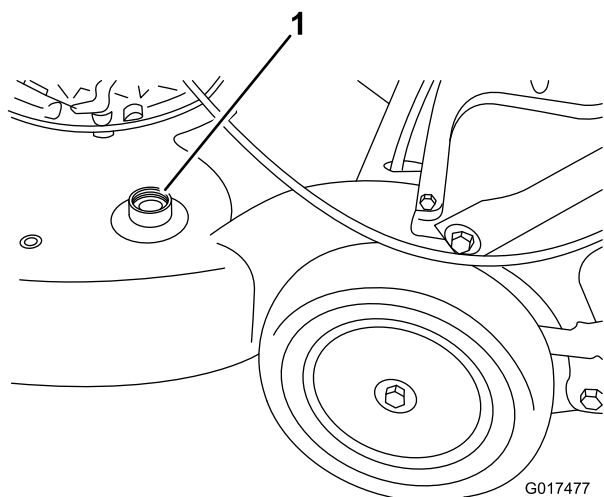

Figure 37
3. Attach a garden hose that is connected to a water supply to the washout port on the machine housing (Figure 37).